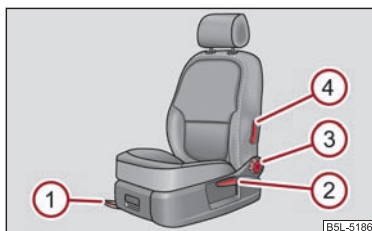

Fig. 55 Controls at seat
- Pull the lever ① ⇒ fig. 55 up and push the seat into the desired position.
- Release the lever ① and push the seat further until the lock is heard to engage.